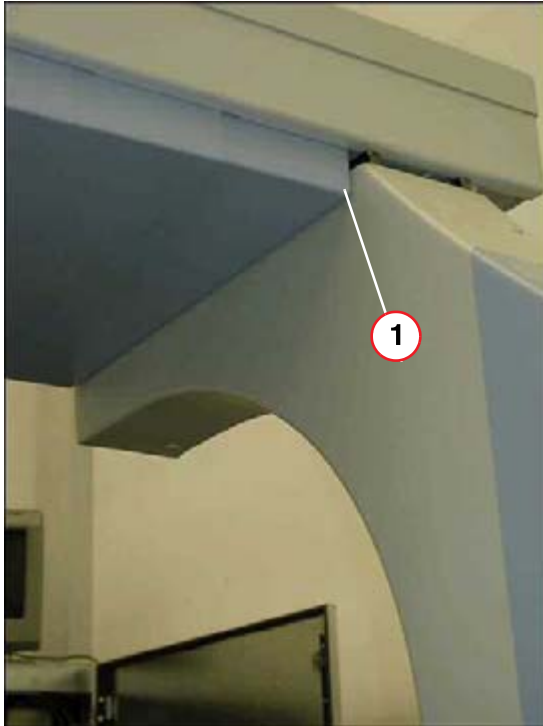

Fig. 96: Tower cover
- Carefully insert the tower cover underneath the tube carriage (1/Fig. 96 / p. 81).